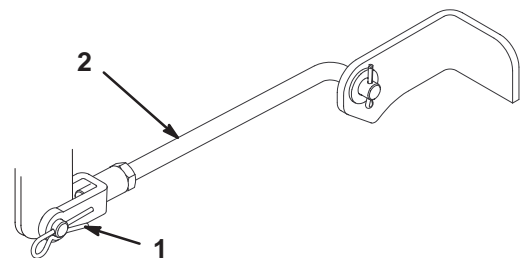

Figure 44
3. Remove the hairpin cotter and clevis pin from the front trunnion yokes (Fig. 44).
6. Attach the front trunnion rods to the tractor with the clevis pins and hairpin cotters (Fig. 44).